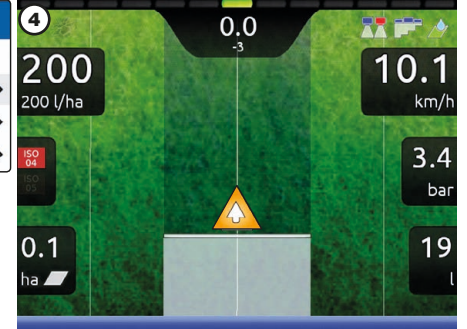

Fig. 288
- 4 Complete the spraying (Fig. 288).